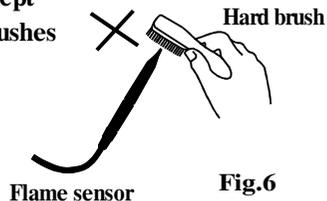

Fig. 8
- \* In order to avoid dangerous situation arising from breakage of glass, do not apply heavy weight or strong impact on glass top plate. (Fig. 8)